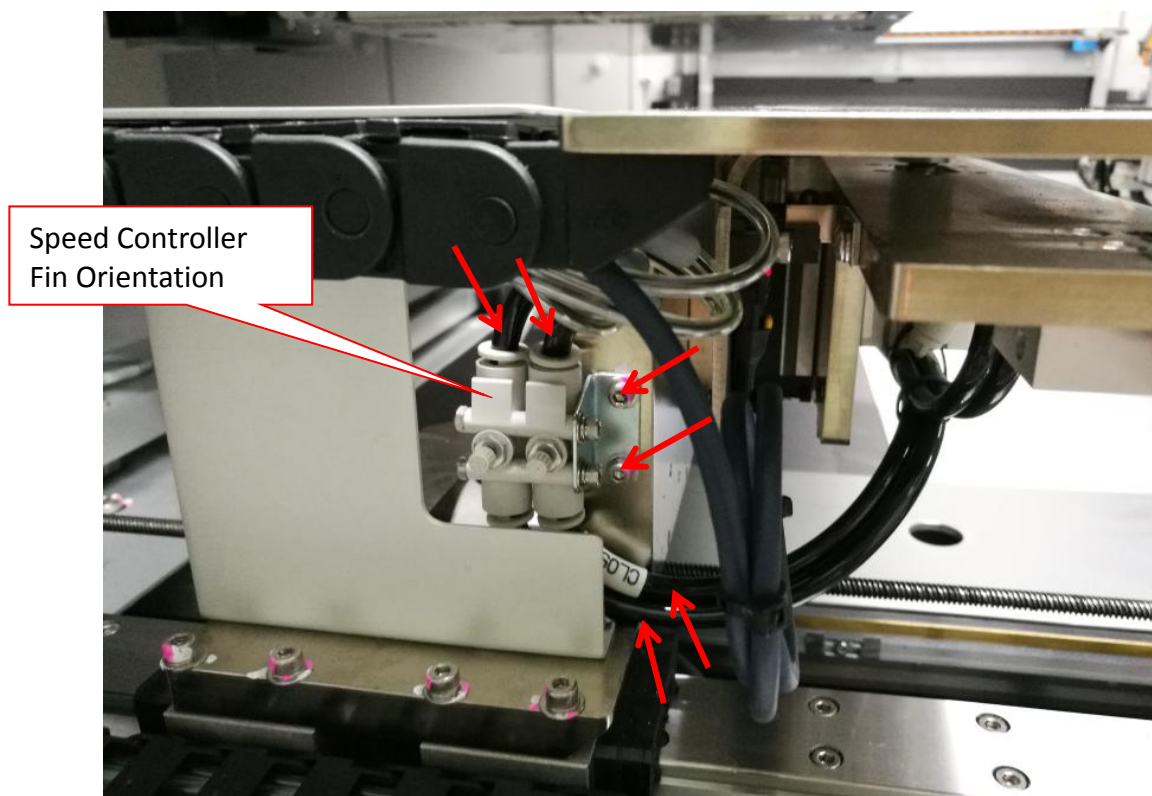

Figure 4 Speed Controller Fitting Assembly
6. Assemble Speed Controllers at Adj Rail. Plug 4x tubing accordingly by refer previous marking. Tighten-up 2 x screws as shown in Figure 4.